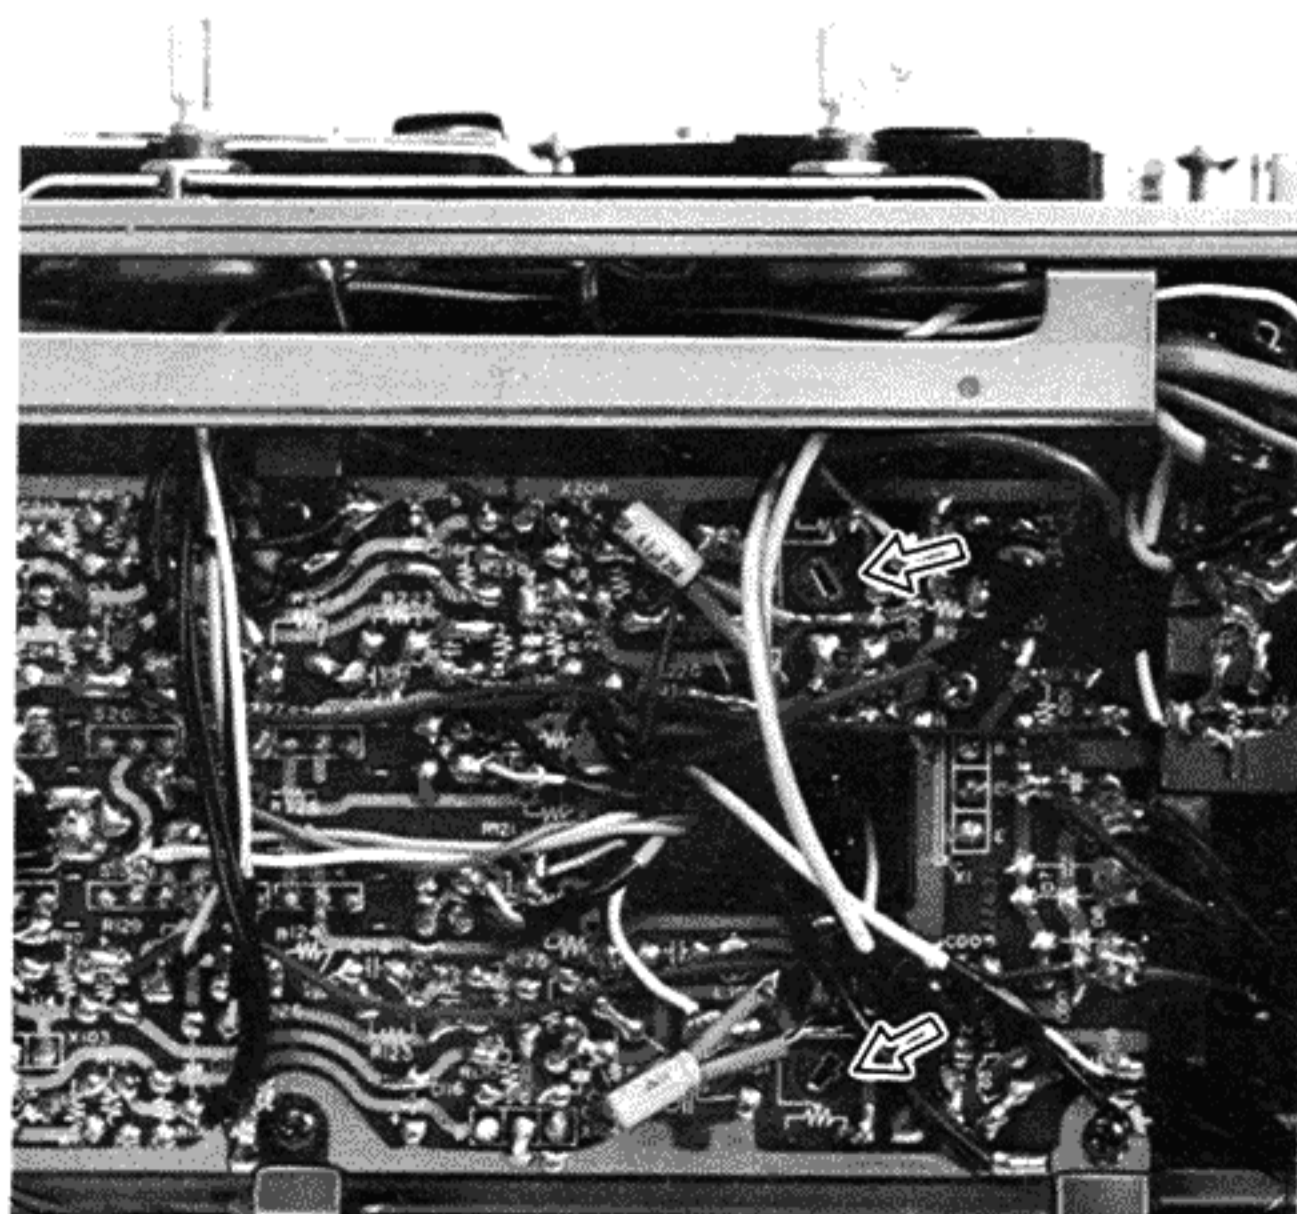

Fig. 30-2
4) Adjusting the recording level (Fig. 30-2)